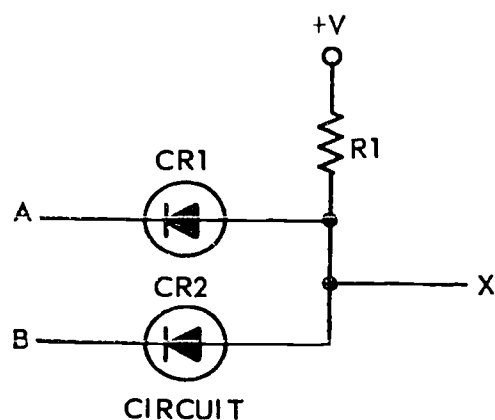

Figure 1-14. AND-gate with truth table.
A truth table shows all the possible input conditions and the output of each case. Figure 1-14 is a truth table which relates all the important features of AND-gates. In this truth table, the low (L) represents -6 volts and the high (H) represents 0 volt. Compare each line of the truth table with specific conditions as follows:
The important feature to remember about an AND-gate (fig. 1-14) is that all inputs must be high (H) before the output (X) will be high.